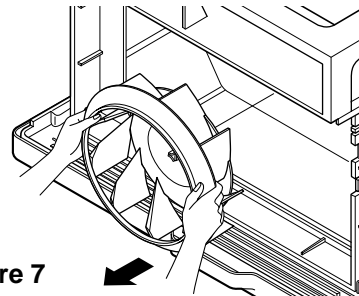

Figure 7
9. Remove the turbo fan with plier or your hand without touching blades. (See Fig. 7)